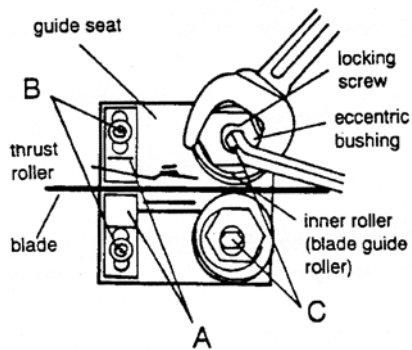

Figure 10
2. Loosen blade guides (A, Figure 10) by loosening screws (B). Slide blade guides away from blade.